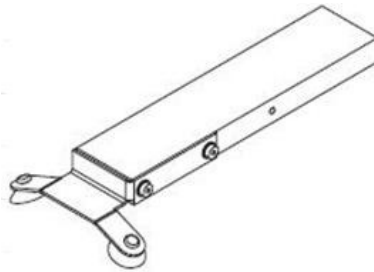

Figure 5
- Calibration block (part number 10016995) used for calibrating the sensor. (Figure 5)